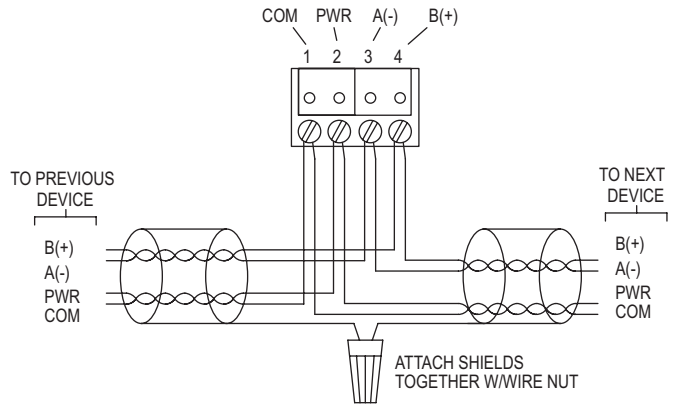
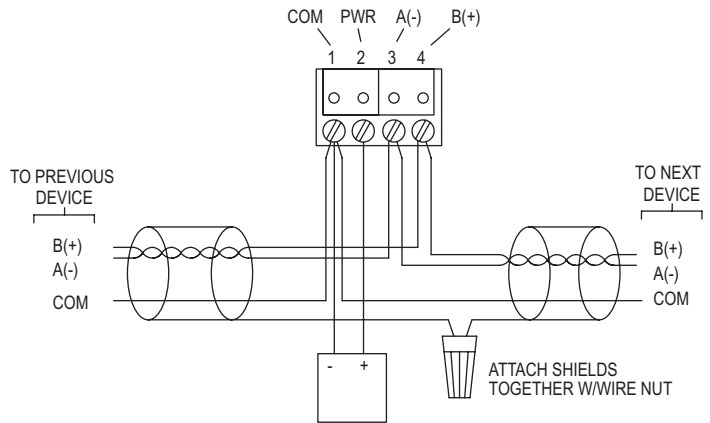

Figure 3 - Common Power Supply
Figure 4 - Local Power Supply
7. Proceed with wiring diagrams according to Figures 3 and 4.
Figure 3 shows how to connect the GSTC in a network containing a common power supply. Use a cable containing two twisted pairs. One pair is to be used for the power and common. The other pair is to be used for A(-) and B(+). Attach the shields together with a wire nut. This configuration is not suitable for AC supplies. Use a DC supply only. Care should be taken that there are not too many devices powered from the same supply as voltage drops will occur in the wiring. If you have many devices, or have long cable runs, the local supply configuration, shown in Figure 4, may be a better choice.
Figure 4 shows how to connect the GSTC in a network containing individual local supplies. Use a cable containing a single conductor and a twisted pair. The single conductor is to be used for common, and the pair is to be used for A(-) and B(+). Attach the shields together with a wire nut. Both AC and DC supplies are suitable for this configuration.